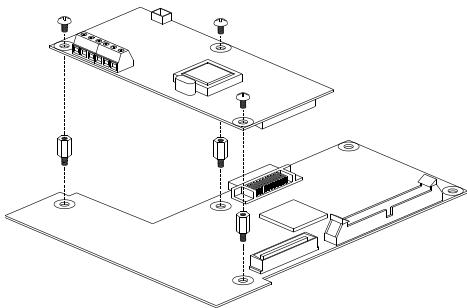

Figure 1. RS485/Modbus-RTU Option Card Installation
- ① Connect the option card to the inverter control board using each connector on their boards (See the Figure 1).
- ② Power up the inverter after verifying the option card is installed properly.
- ③ When powering up the inverter, CPU LED is blinking per second after all LEDs blink one after another.
- ④ If "CPU LED" is not blinking, power down the inverter swiftly and check for the proper installation of the option card.